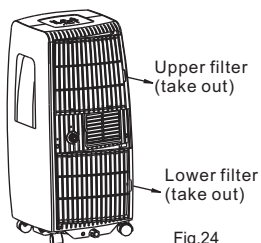

Fig.24
This unit has two filters. Take the upper and lower filters out along the the arrow direction (Fig.24),then take the filter down.
- Remove the plug from the bottom drain outlet, all the water in the bottom tray would drain out (See Fig.24).